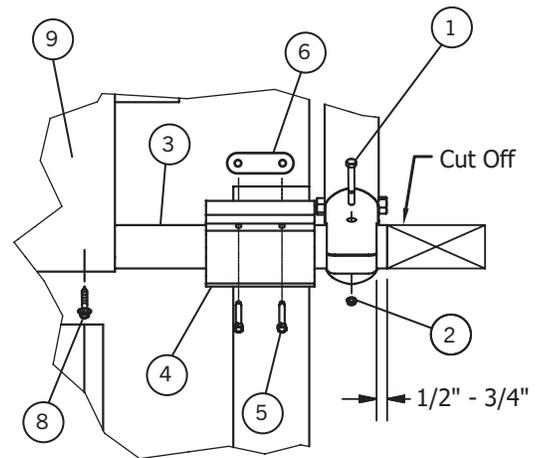

Figure 27-2
- 17) **Figure 27-2.** Cut excess cross arm, leaving 1/2"-3/4" extension beyond upper arm casting.